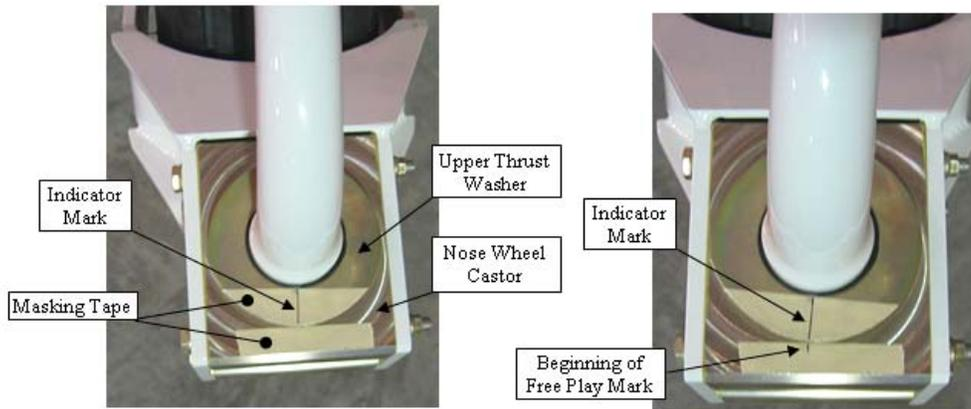

Figure 32-44 Rotational Free Play Measurement - Indicator Mark
2. Place a small strip of masking tape on nose wheel castor upper thrust washer and another one on top of nose wheel castor assembly. Make a mark on masking tape across upper thrust washer (see Figure 32-44).